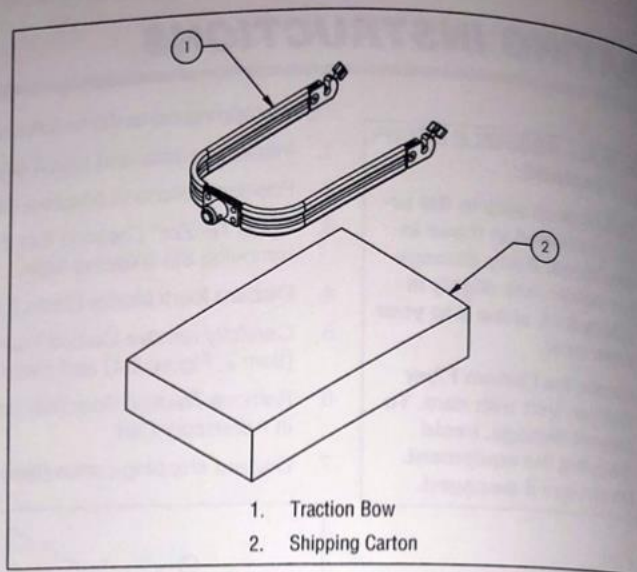

Figure 2-2. Remove Traction Bow (Typical)
9. Carefully remove Traction Bow (Item 1, Figure 2-2) and place in Accessory Cart.
10. Discard shipping carton (Item 2, Figure 2-2).